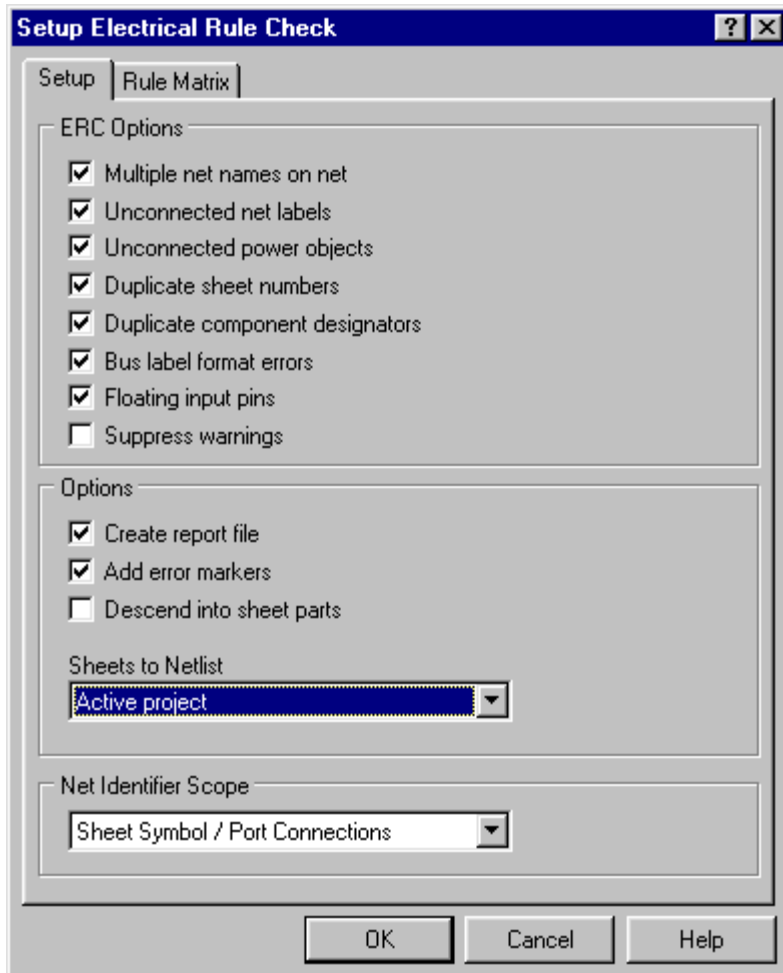

Figure 26 Setup Electrical Rules Check dialog box
- Note the Rule Matrix tab in the dialog box shown in Figure 26. This matrix provides a mechanism to establish connectivity rules between pins and net identifiers. It defines the logical or electrical conditions that are reported as warnings or errors.
3. The **Reports » Component Rule Check** command pops up the Component Rule Check dialog box (refer to Figure 26). These allow you to test for: